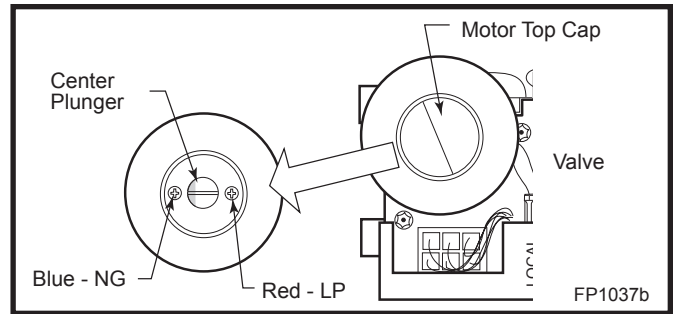

Fig. 65 Depress and turn center plunger.
3. Remove motor top cap. Depress and turn center plunger until arrow points to correct screw. Red for LP and Blue for NG. **NOTE:** Plunger will "snap" into NG position when arrow is close to blue screw. It will not "snap" at LP (Red) position. (Fig. 65)